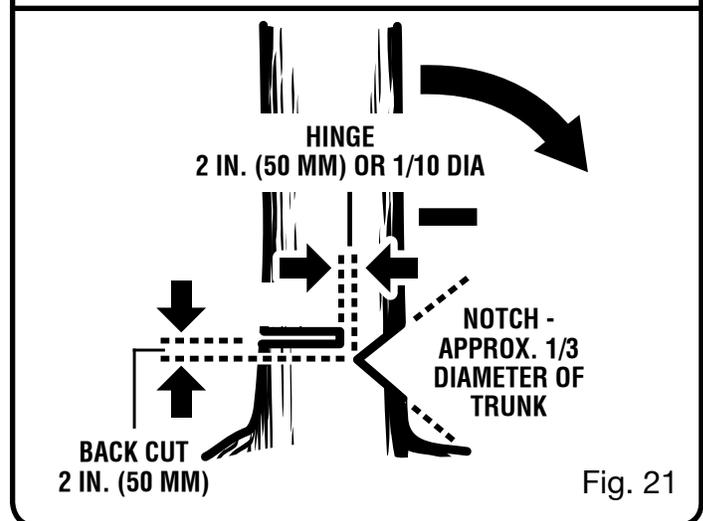

Fig. 21
- **Notched Undercut.** Cut a notch about 1/3 the diameter of the tree as shown in figure 21. Make the cuts of the notch so they intersect at a right angle to the line of fall. This notch should be cleaned out to leave a straight line. To keep the weight of the wood off the saw, always make the lower cut of the notch before the upper cut. *See Figure 21.*
- **Felling Backcut.** The backcut is always made level and horizontal, and at a minimum of 2 in. above the horizontal cut of the notch. *See Figures 21 - 22.*
- Never cut through to the notch. Always leave a band of wood between the notch and backcut (approximately 2 in. or 1/10 the diameter of the tree). This is called “hinge” or “hingewood.” It controls the fall of the tree and prevents slipping or twisting or shoot-back of the tree off the stump. See *Figures 21 - 22*.